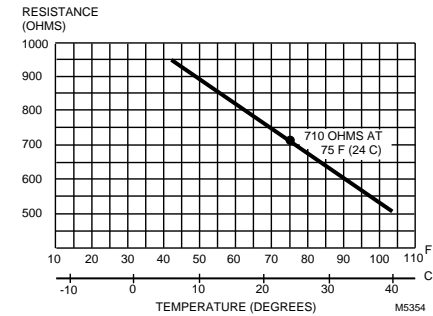

Fig. 6. T7047G1000 Remote Sensor resistance change with change in temperature.
- ⚠ RESISTOR AND TIME SWITCH IN SERIES BETWEEN TERMINALS 5-7. SEE FIG. 6, PAGE 5.